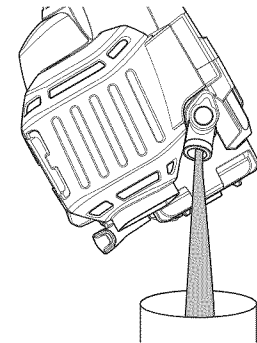

Fig. 23
3. Tip the unit vertically to pour the oil out of the oil fill hole and into a container (Fig. 23). Allow ample time for complete drainage.